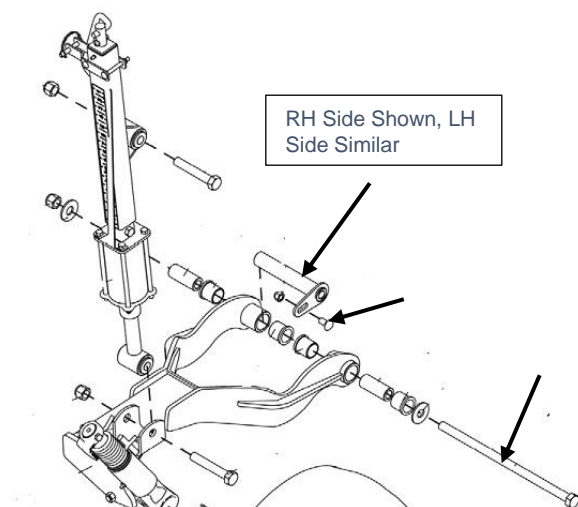

Figure 5
14. On the remaining size headers, remove the pin holding the rear of the paddle. Figure 5